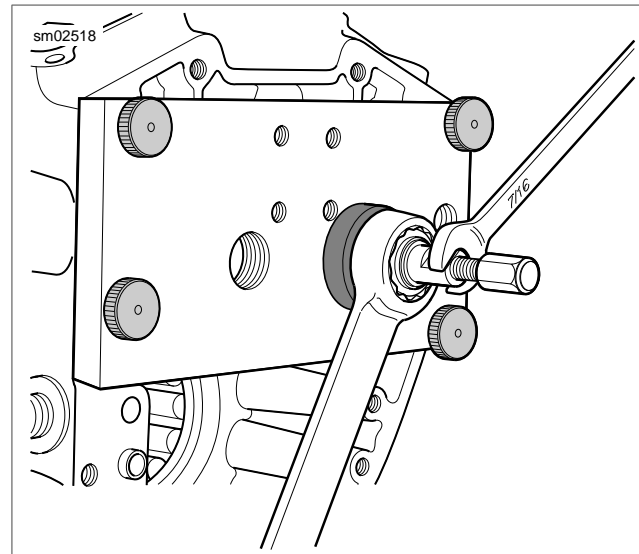

Figure 3-122. Bearing Removal
11. See Figure 3-122. Using a 15/16 in. open end wrench, turn hex nut in a clockwise direction until bearing is free. If necessary, hold flat on collet to prevent rotation.